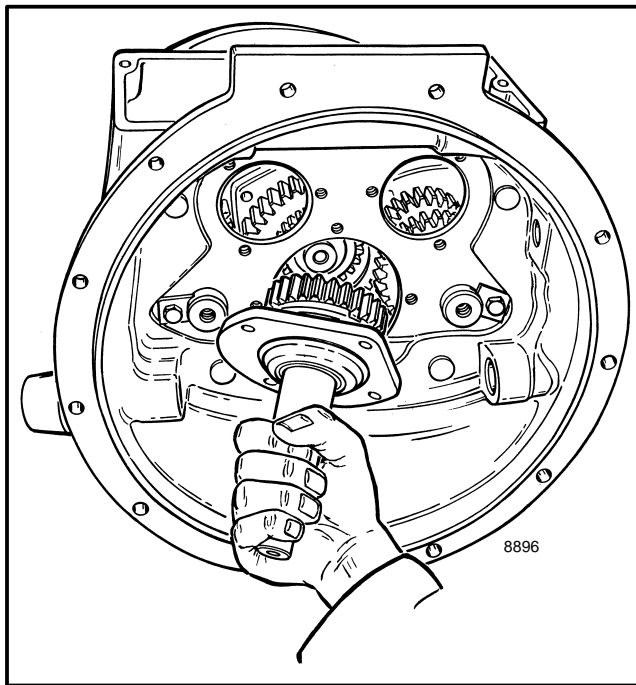
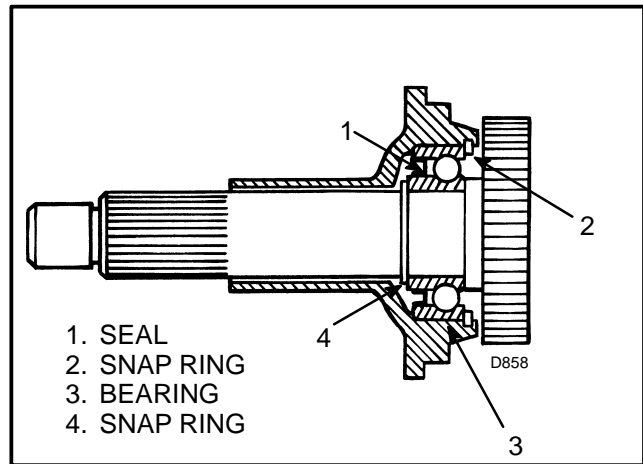

FIGURE 14. REMOVE THE INPUT SHAFT AND BEARING RETAINER
FIGURE 15. INPUT SHAFT ASSEMBLY
7. Remove the capscrews and pull the input shaft and bearing retainer from the housing. To remove the retainer from the bearing, remove the snap ring from the groove in the retainer. Put the side of the retainer with the gear on blocks. Use a brass hammer or a press to push the shaft and bearing from the retainer. Remove the snap ring from the shaft. Use a tool for removing bearings as a support for the bearing. Put the tool between the bearing and the gear. Use a press to push the shaft through the bearing. See FIGURE 14. and FIGURE 15.